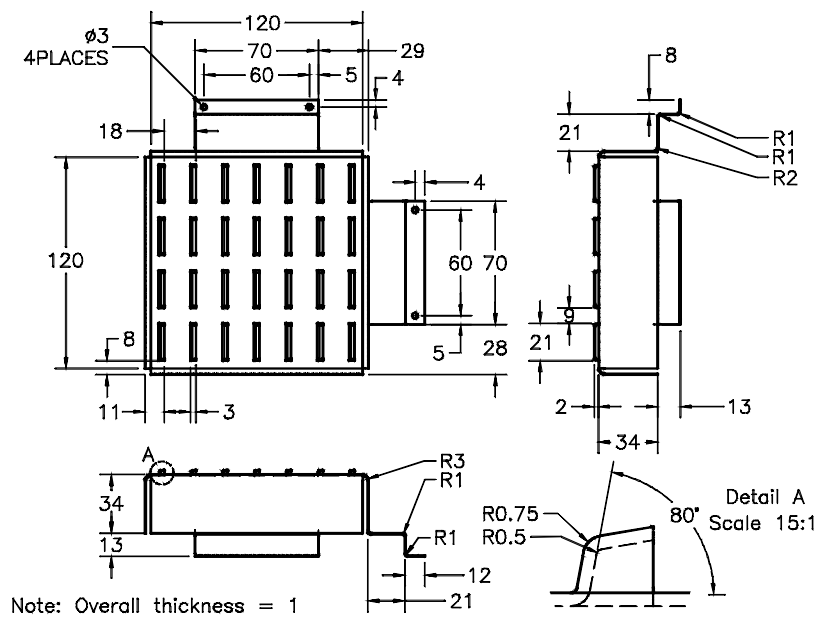

*Figure 15-143 The final model for Tutorial 3*
6. Similarly, create another handle on the other side of the feature. The final model for Tutorial 3 is shown in Figure 15-143.